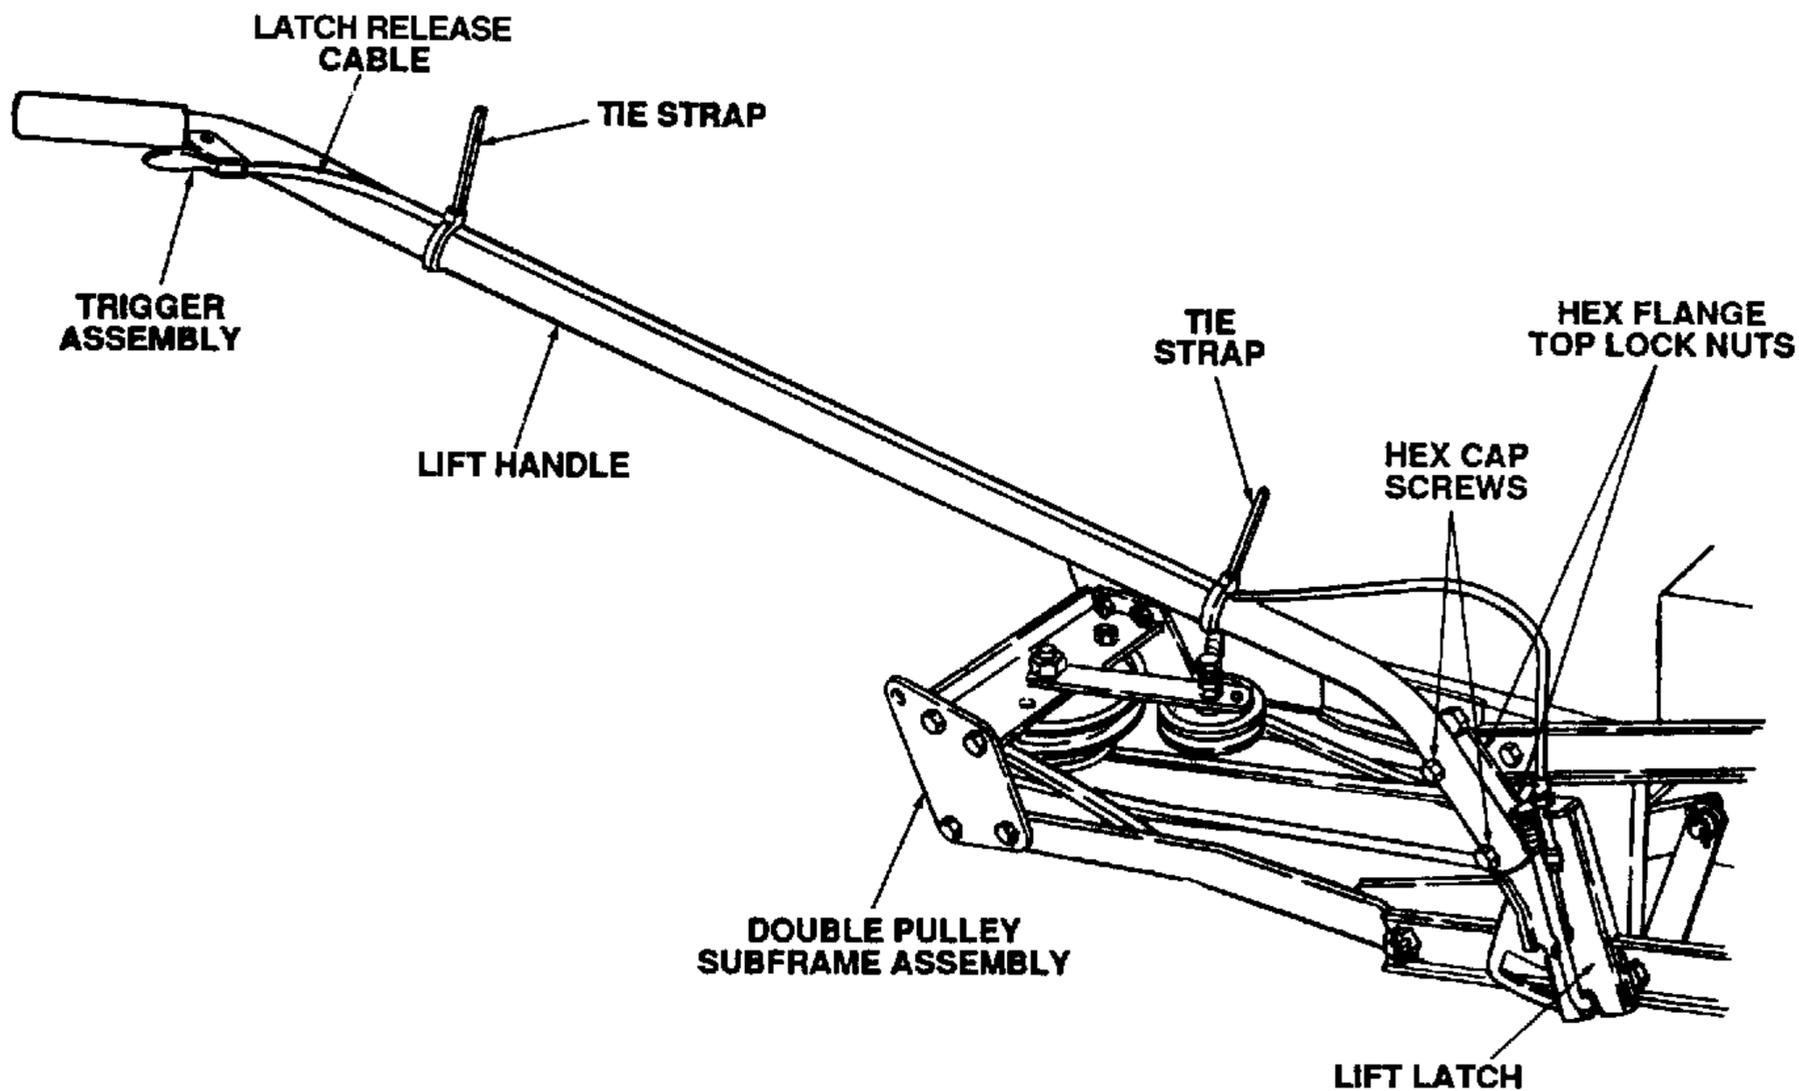

Figure 7-32. Installing Snow Thrower Lift Handle and Latch Release Cable.
9. Attach the snow thrower lift handle (22) to the lift latch bracket, located on the right side of the snow thrower undercarriage, using the two hex cap screws (12) and hex flange top lock nuts (8). See Figure 7-32.
- Secure the latch release cable to the lift handle using two tie straps (25) as shown in Figure 7-32.